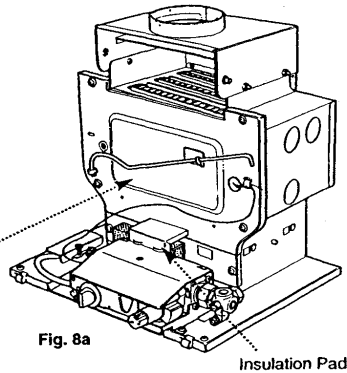
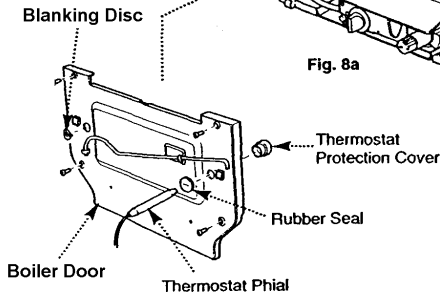

Fig. 8a
Fig. 9
1. Remove the thermostat capillary from its clip. Withdraw the thermostat phial from the pocket. Lift away the insulation pad (Fig. 8a) and unfasten the four screws retaining the boiler door and remove. Remove the rubber seal and thermostat protection cover (Fig. 9).